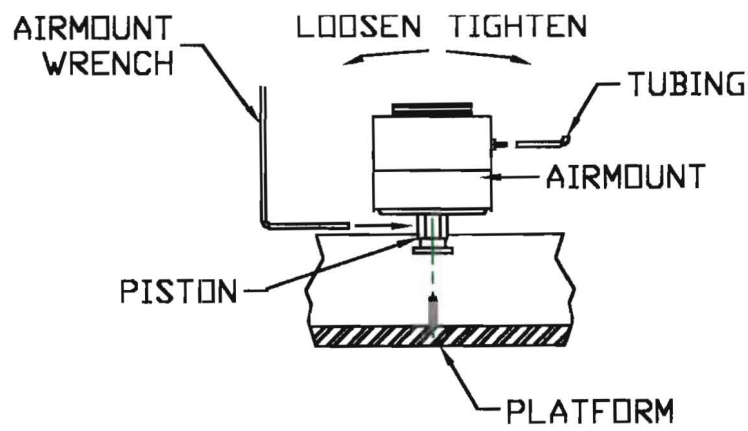

Fig. 3 Isolator (Airmount) Replacement.
- Adjust the height of the system by turning the height adjustment screws clockwise to raise the system or counterclockwise to lower the system. There are three height adjustment screws, two for the front to back adjustment and one for the left to right adjustment. (Fig 3)
Piston or pistons too high.	Lower the piston(s) by turning the height adjustment screw counterclockwise. (see Fig 3).
Piston or pistons too low.	Raise the piston(s) by turning the height adjustment screw clockwise. (see Fig 3).